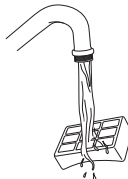

Fig. 23
- 4 Wash the filter under the tap using lukewarm water with the dirty side face down until the water runs clear. **(Fig. 23)**